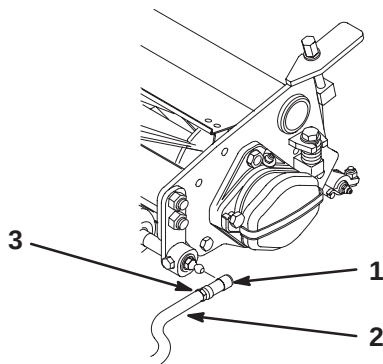

Figure 13
6. Align the sockets in the ball joints so the open side of the socket is centered towards the ball stud. Tighten the jam nuts to secure the sockets in position (Fig. 13).